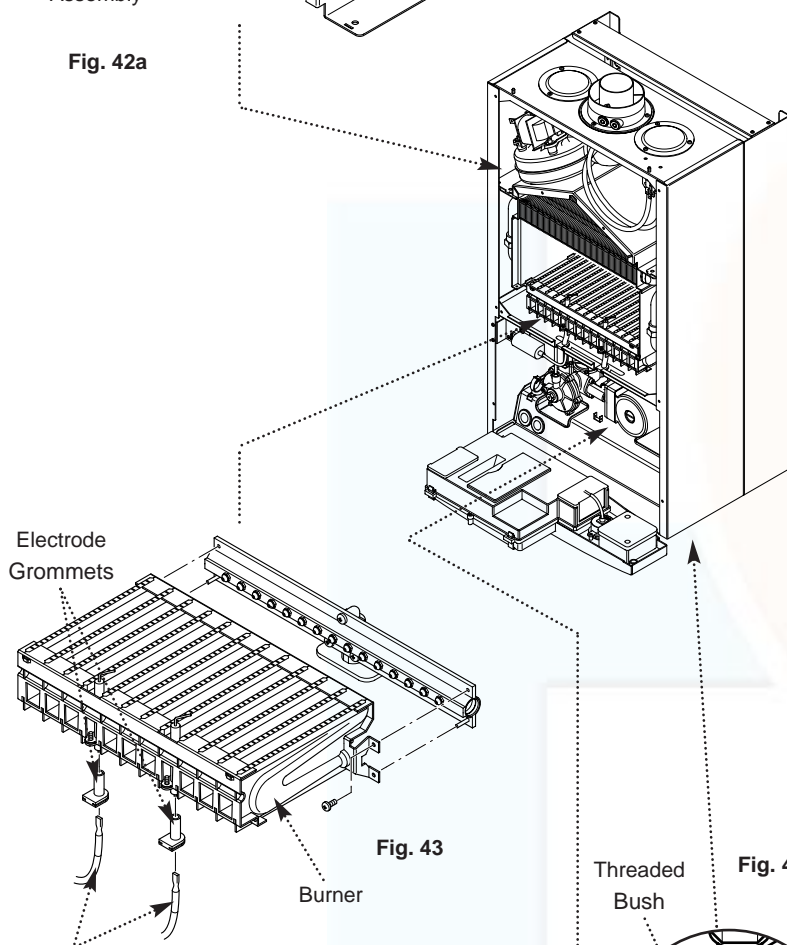

Fig. 43
12. Undo the screws securing the burner to the injector manifold (105e model only). Draw the burner out of the combustion box, pulling the electrode grommets from the slots in the combustion box lower panel (Fig. 43).
13. Disconnect the electrode leads and grommets from the electrodes. Completely remove the burner (Fig. 43).